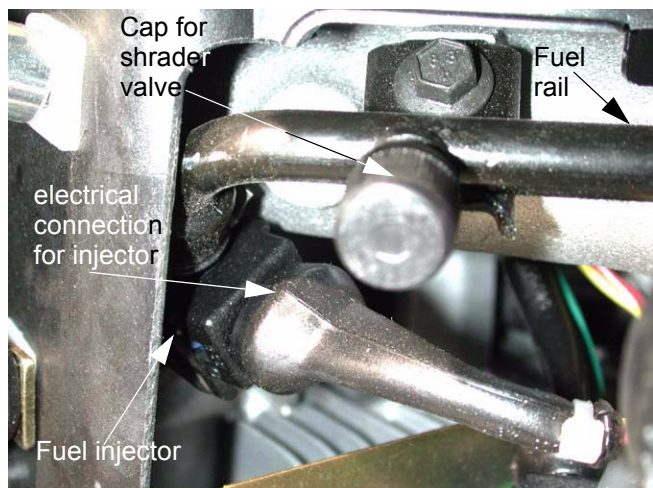

Figure 10.10
- 10.10. After the filter, the fuel reaches the fuel rail. The fuel rail feeds the injectors. See Figure 10.10.